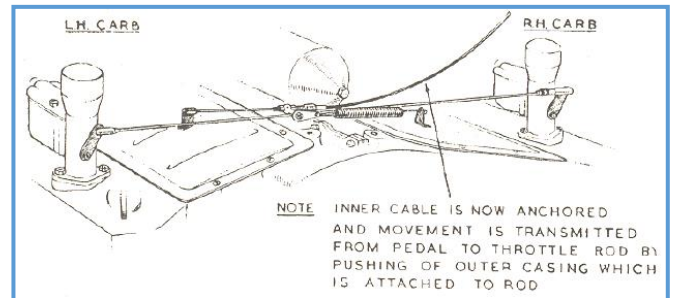

Figure 6. Throttle cable arrangement
- l) **Water Pump** – On all Engines prior to PA.5857 the Water Pump should be modified to increase its capacity to 7 gallons/min. at 1,500 R.P.M. On Engines subsequent to the above number the modification was incorporated. The modification consists of a modified Cover and the addition of a Shroud Assembly to the Impellor, as shown in Fig. 6. In addition to the above the Thermostat should have the 2 Bleed Holes enlarged to 3/16" diameter if prior to the above number.